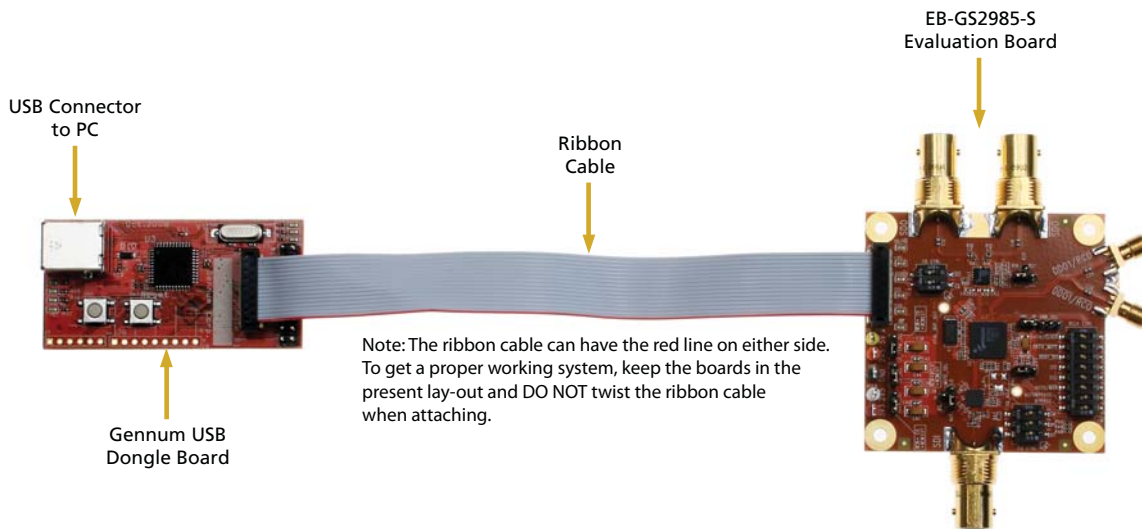

Figure 1-11: EB-GS2985-S Board + USB Dongle Board setup
Connect the EB-GS2985-S Board to the USB Dongle Board as per Figure 1-11.
2. Connect the Gennum USB Dongle Board to the EB-GS2985-S using the supplied ribbon cable as per Figure 1-11.